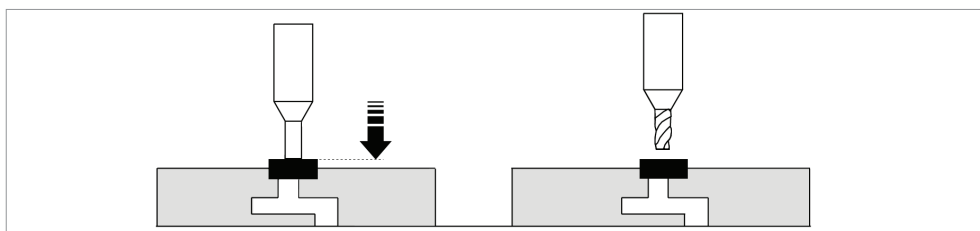

Fig. 17
- 1) Turn off the motor with switch (Q).
- 3) Loosen the top nut (O).
- 5) Turn the nut (N) a few turns clockwise to lower the tracer.
- 6) Turn on the motor with switch (Q).
- 7) Use the lever (J) to lower the vertical carriage until the tracer touches the key in the left-hand clamp (Fig. 17).